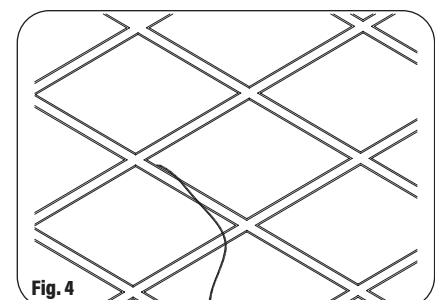

Fig. 4
5. Put LED panel light on the ceiling screens. (Fig. 4)